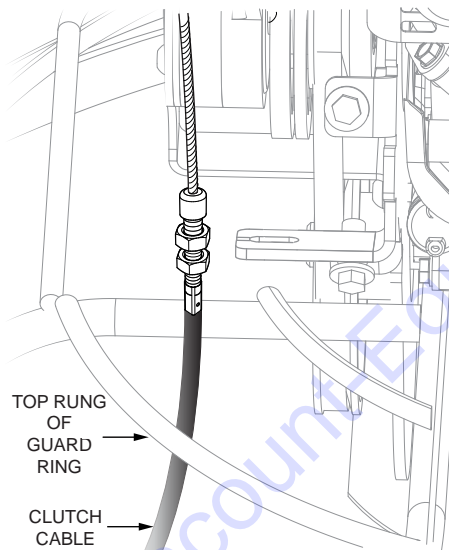

Figure 16. Clutch Cable Routing
- Route the clutch cable (Figure 16) underneath the top most rung of the guard ring.